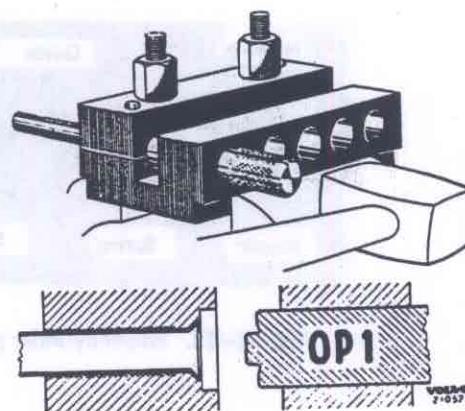

Fig. 52-27. Flanging the brake pipe
5. Place drift OP 1 in the tool. Tip on the drift with a copper mallet until the drift goes to the bottom. The edge of the pipe then takes up the shape shown in Fig. 52-27.